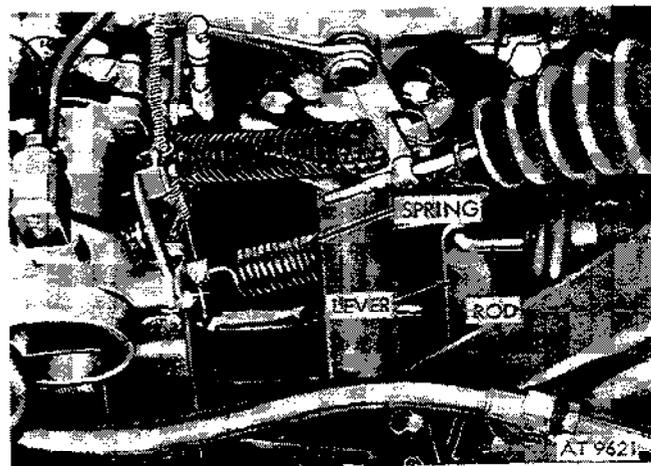

Figure 2-77. Clutch adjustment.
(1) Remove clutch return spring located on left side of engine (fig. 2-77).
(2) Slip rod out of clutch release equalizer shaft lever and rotate the rod until the pedal free travel is obtained (fig. 2-77).